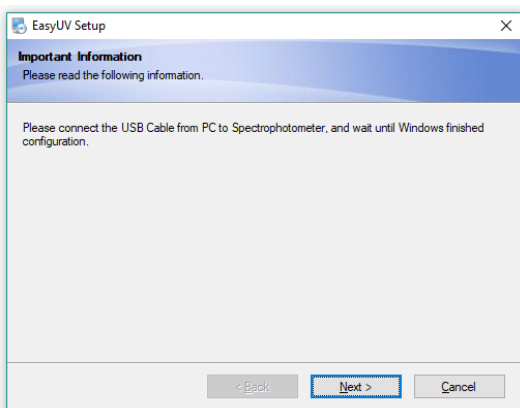

Fig. 2.3-1 Connessione strumento
- Connect the spectrophotometer to the PC with the supplied USB cable (Fig.2.3-1) and wait for the automatic configuration of the operating system;